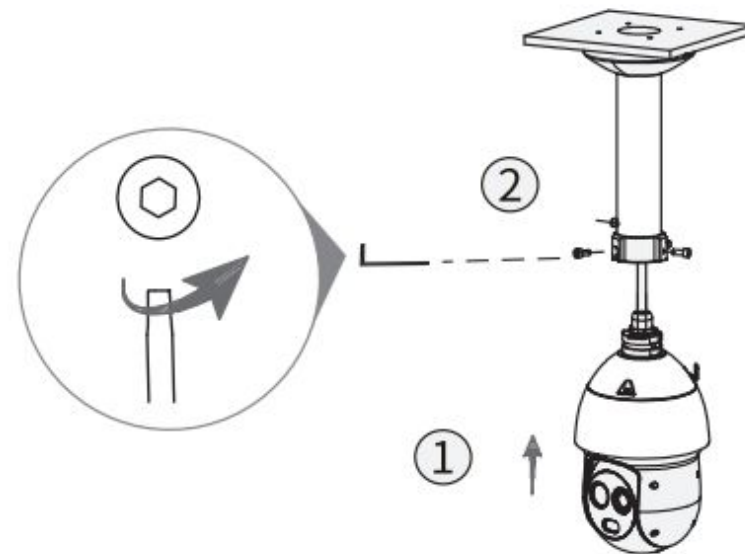

Figure 2-8
Step 4 Secure the camera to the pole using the locking screws. See Figure 2-8.